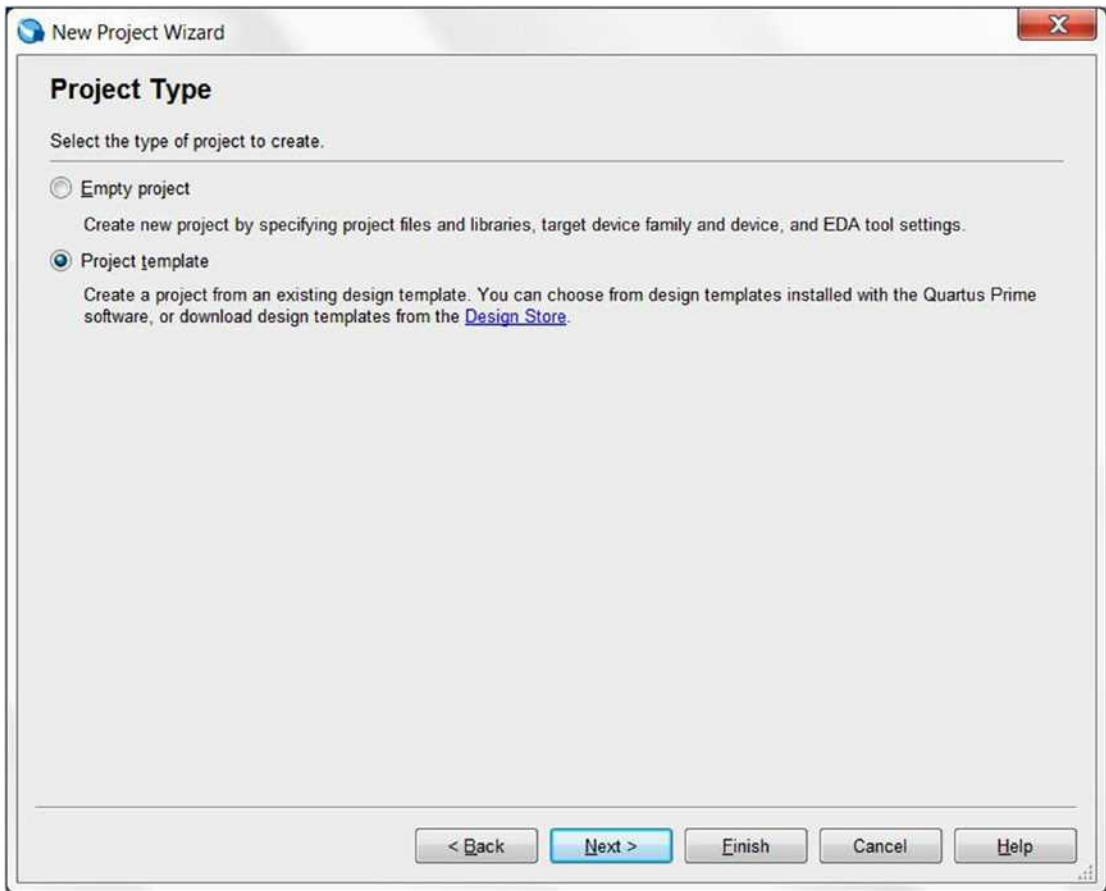
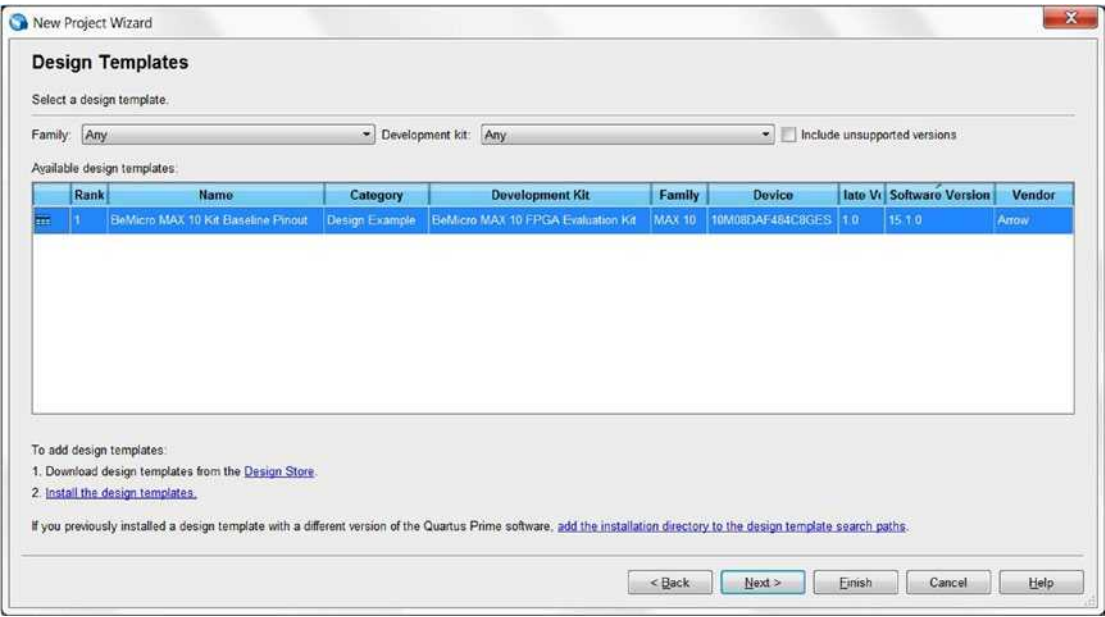

Figure 4-5. Quartus Prime New Project Wizard dialog box—Project Type
Figure 4-12. *New Project Wizard—Design Templates with BeMicroMAX10 kit Baseline Pinout template install*
5. Select **Project template** and then click **Next** (shown in Figure 4-5).
13. The design templates page will change from Figure 4-5 to Figure 4-12. Click the **BeMicro MAX10 Kit Baseline Pinout** templates (it should highlight the template) and then click **Next**.